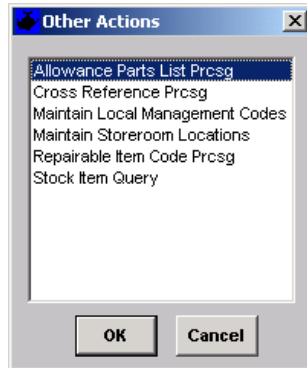

Figure 5.4
- 5.1.2.2 Click the  (**Other Actions**) button to display the **Other Actions** window (Figure 5.4). Use this window to transfer processing to other functions using the same NIIN without returning to the Search Window.